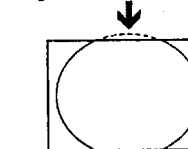

Fig. 36
- Smart: Imitation of wide screen effect (16:9) for 4:3 broadcasts (See Fig. 36).